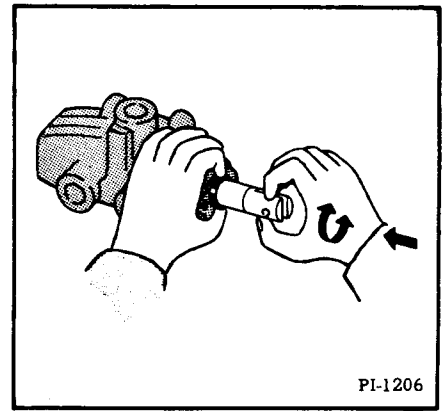

Fig. 23 Installing A New Front Seal
(8) Carefully install a new seal (Fig. 23). After the seal is in place, carefully squeeze the seal into the housing while twisting and lightly pushing the spool into place (Fig. 23).
(9) Replace the collar, spring, washer and round head screw. Tighten the round head screw securely.
(10) After tightening the round head screw, make sure the washer can slide freely on the spool.
(11) Replace the bonnet and the four cap screws.